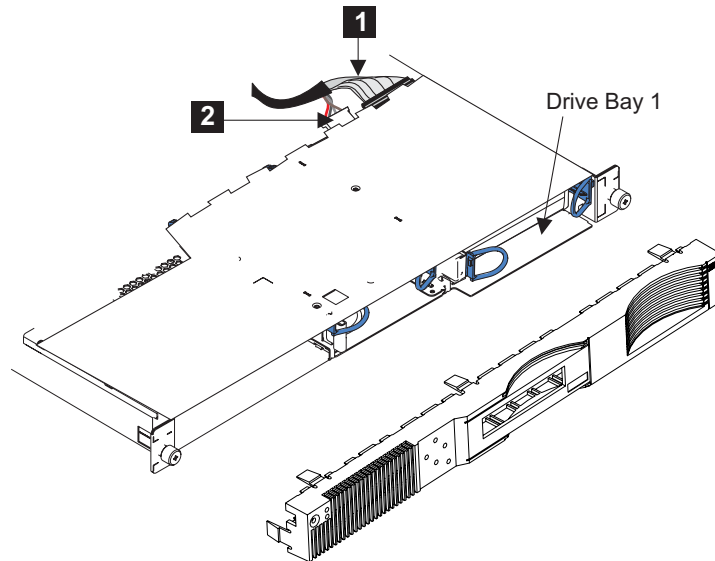

Figure 45. Removing the disk drive cables
4. Disconnect the SCSI signal connector **1** and the power connector **2** from the back of the disk drive, then remove the cable. See Figure 45 on page 175.